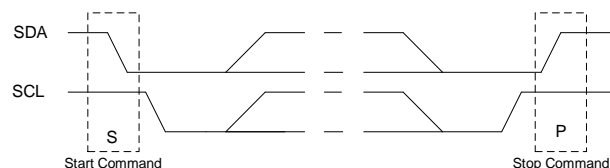

Figure 4: Start and Stop Command
The start and stop commands are signaled by the master device which signifies the beginning and the end of the I²C transfer. The start (S) command is defined as the SDA signal transitioning from high to low while the SCL is high. The stop (P) command is defined as the SDA signal transitioning from low to high while the SCL is high. Figure 4 shows the start and stop commands.